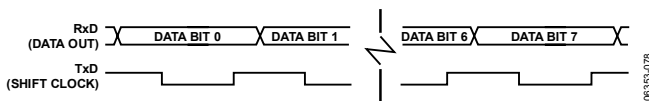

Figure 102. 8-Bit Shift Register Mode
Reception is initiated when the receive enable bit (REN) is 1 and the receive interrupt bit (RI) is 0. When RI is cleared, the data is clocked into the RxD line, and the clock pulses are output from the TxD line as shown in Figure 102.